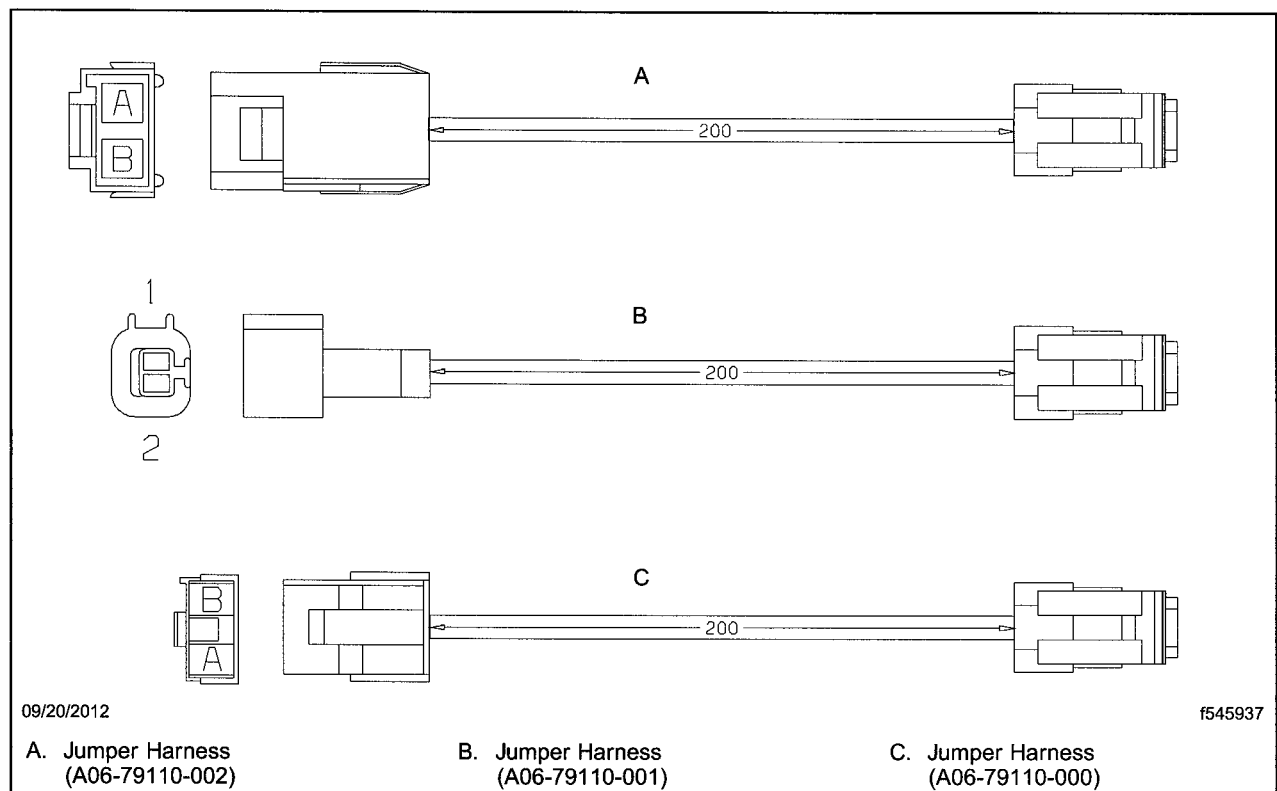

Fig. 2, Jumper Harnesses
6. Refer to **Fig. 2** and determine which jumper harness is needed for the vehicle.